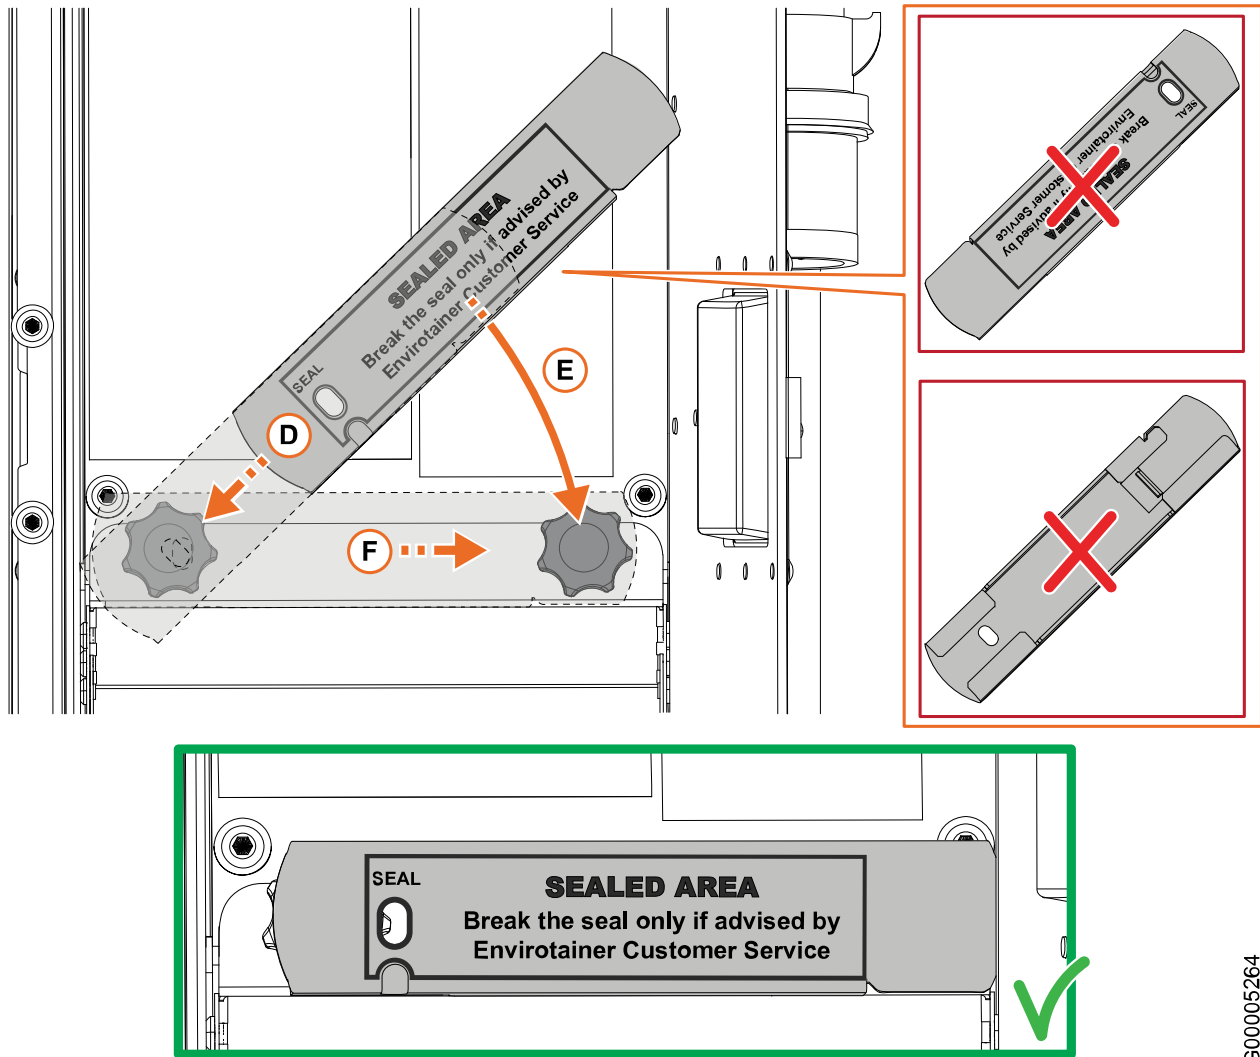

Fig. 31
**11.** Mount the bracket over the thumbscrews (**Fig. 31**):
**11a.** Slide the bracket down over the left thumbscrew at an angle, until it comes to a stop against the left wall (D).
**11b.** Rotate the bracket all the way down over the right thumbscrew, while keeping the left end of the bracket close to the left wall (E).
**11c.** Push the bracket as far to the right as possible (F).